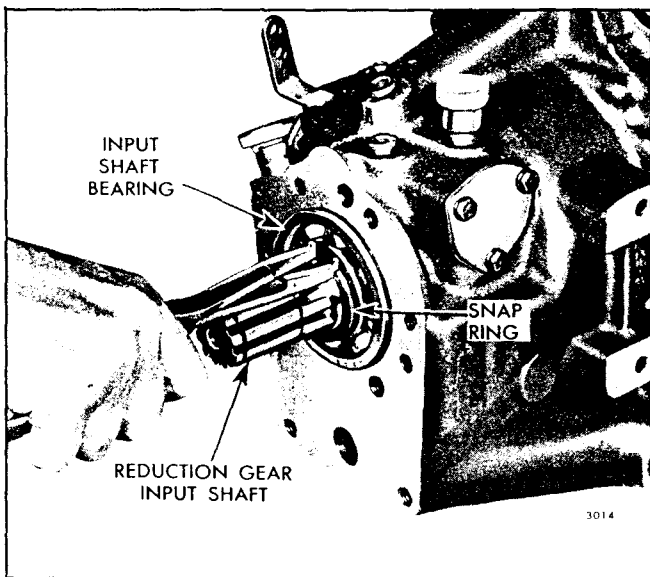

Fig. 32 - Removing or Installing Reduction Gear Input Shaft Bearing Snap Ring (2.5:1 and 3:1 Ratios)
- a. Remove the snap ring from the groove in the reduction gear input shaft next to the bearing inner race with a pair of snap ring pliers J 5586 as shown in Fig. 32.